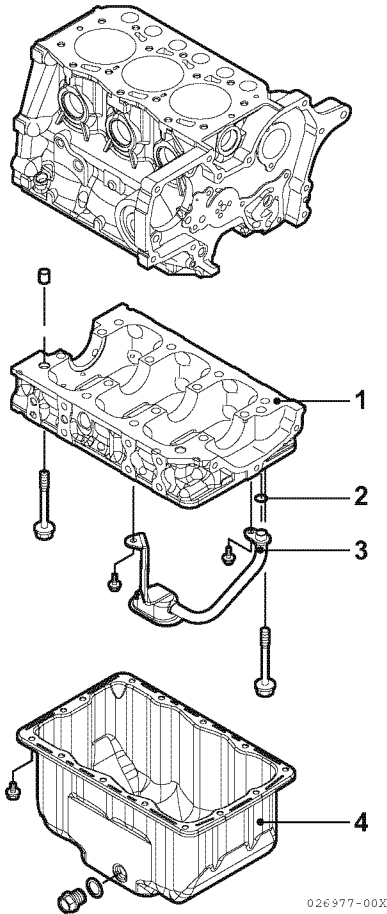

Figure 6-47
2. Remove the oil pan (Figure 6-47, (4)).
3. Remove the ladder frame (Figure 6-47, (1)).
4. Remove the oil pickup tube (Figure 6-47, (3)) and O-ring (Figure 6-47, (2)).